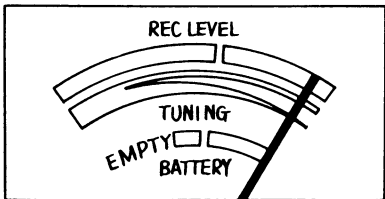

Fig. 8
- Adjust R123 so that the pointer of level meter stays as shown in fig. 8.